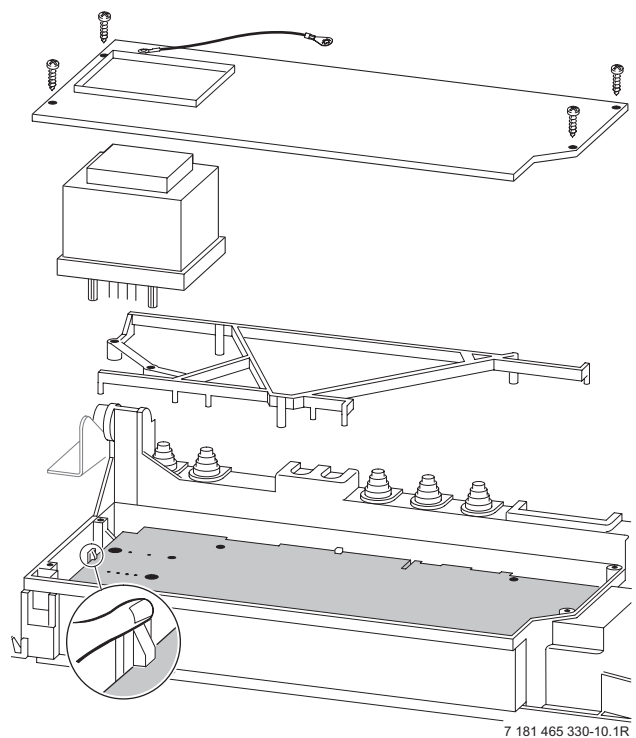

Fig. 59
- ▶ Unscrew four fixing screws from cover plate. Refer to fig. 59.